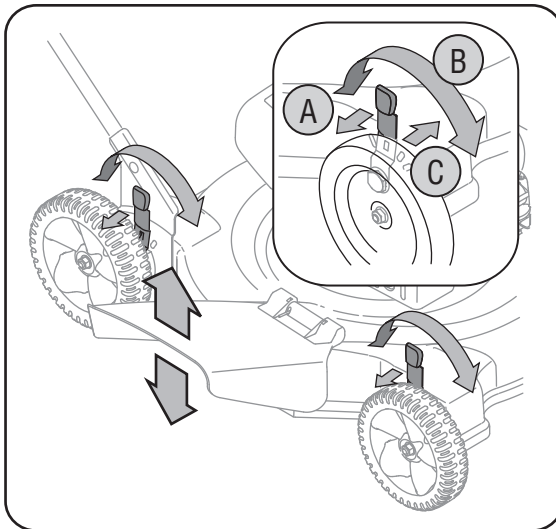

Figure 3-6
6. Each wheel has a height adjustment lever to change the cutting height of the mower. To change the height of cut, squeeze adjuster lever toward the wheel, moving up or down to selected height. See Figure 3-6.